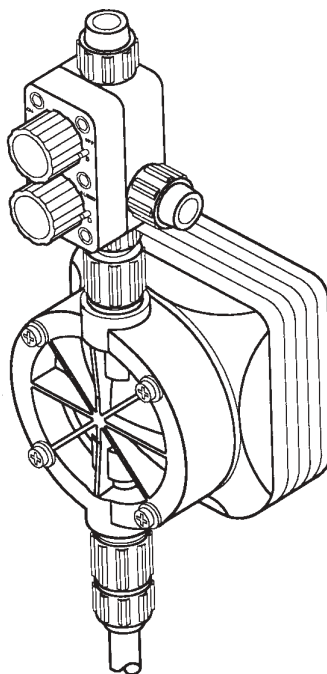

Figure 2.9
2.6 Five-Function Valve (See Figure 2.9)